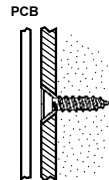

FIGURE 2
3. Mount the back cover using two screws and replace the PCB. Use ISO 7050 (ST3.5 x 22) or similar countersunk screws so that the screw head will not touch the PCB – see Figure 2.